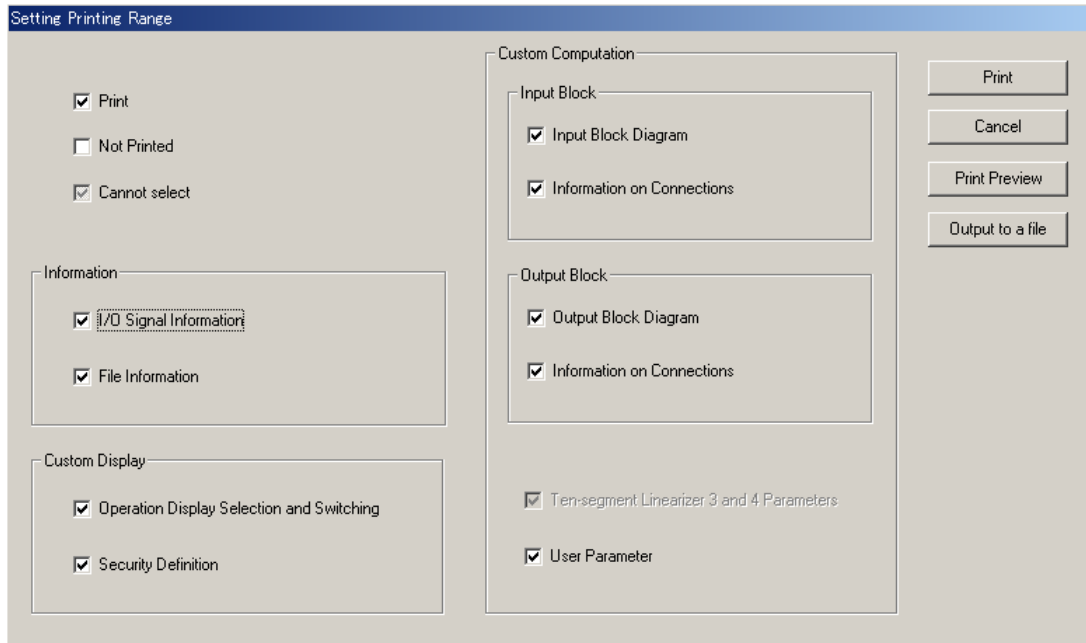
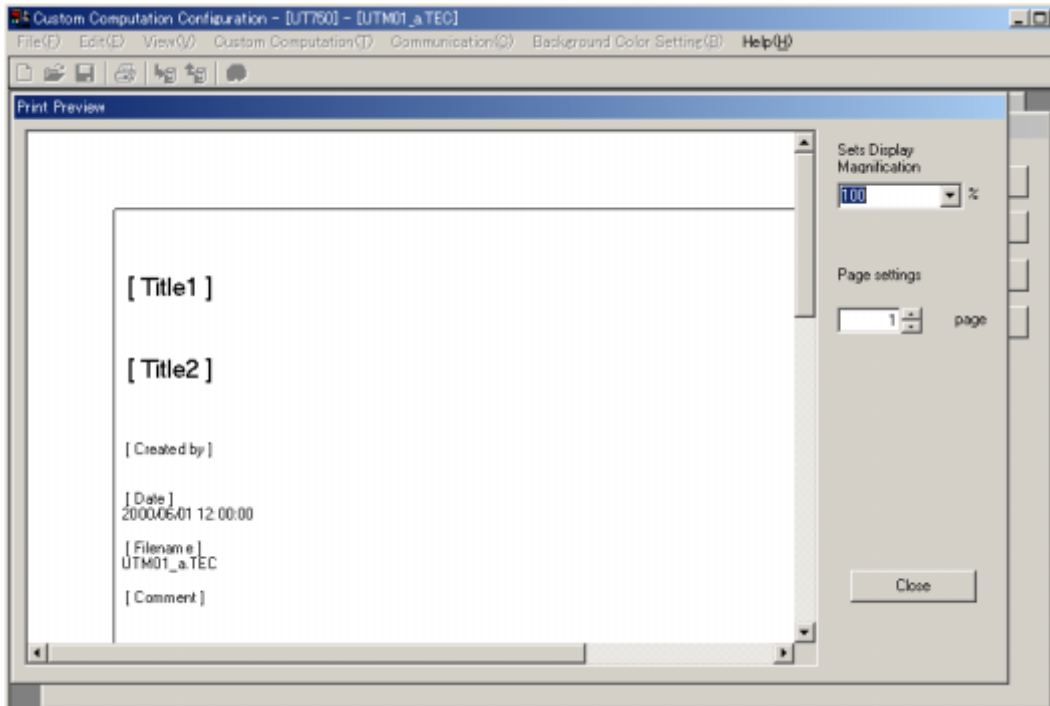
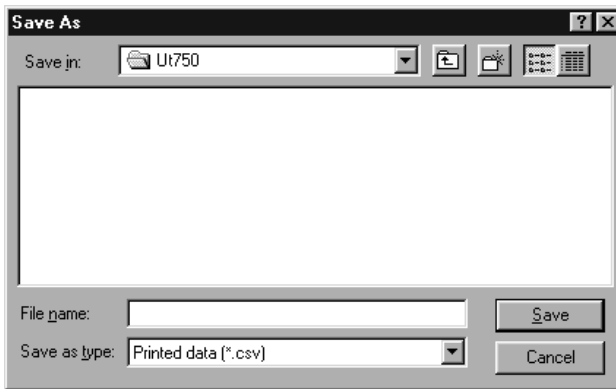

Figure 9.1.1 [Setting Printing Range] Dialog Box
Figure 9.1.2 Example of Print Preview Window
Figure 9.1.3 [Save As] Dialog Box
- (1) Make sure the printer is connected to the personal computer.
- (2) From the tool menus, click <File>, then <Print...>. The [Setting Printing Range] dialog box (Figure 9.1.1) appears.
- (3) Click the check boxes to choose the data items to be printed.
- (4) Click the <Print> button. The [Print Setup] dialog box appears.
- (5) In the [Print Setup] dialog box, click the <OK> button to begin printing.
If you click the <Print Preview> button in the dialog box shown in Figure 9.1.1, the dialog box shown in Figure 9.1.2 appears.
If you click the <Output to a File> button in the dialog box shown in Figure 9.1.1, the dialog box shown in Figure 9.1.3 appears. The file extension used to save data as a file is *****.csv.